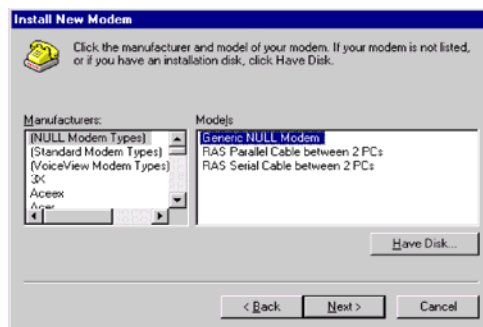

Figure 5 Install New Modem
- At the **Install New Modem** window, click **Have Disk** (See Figure 5).